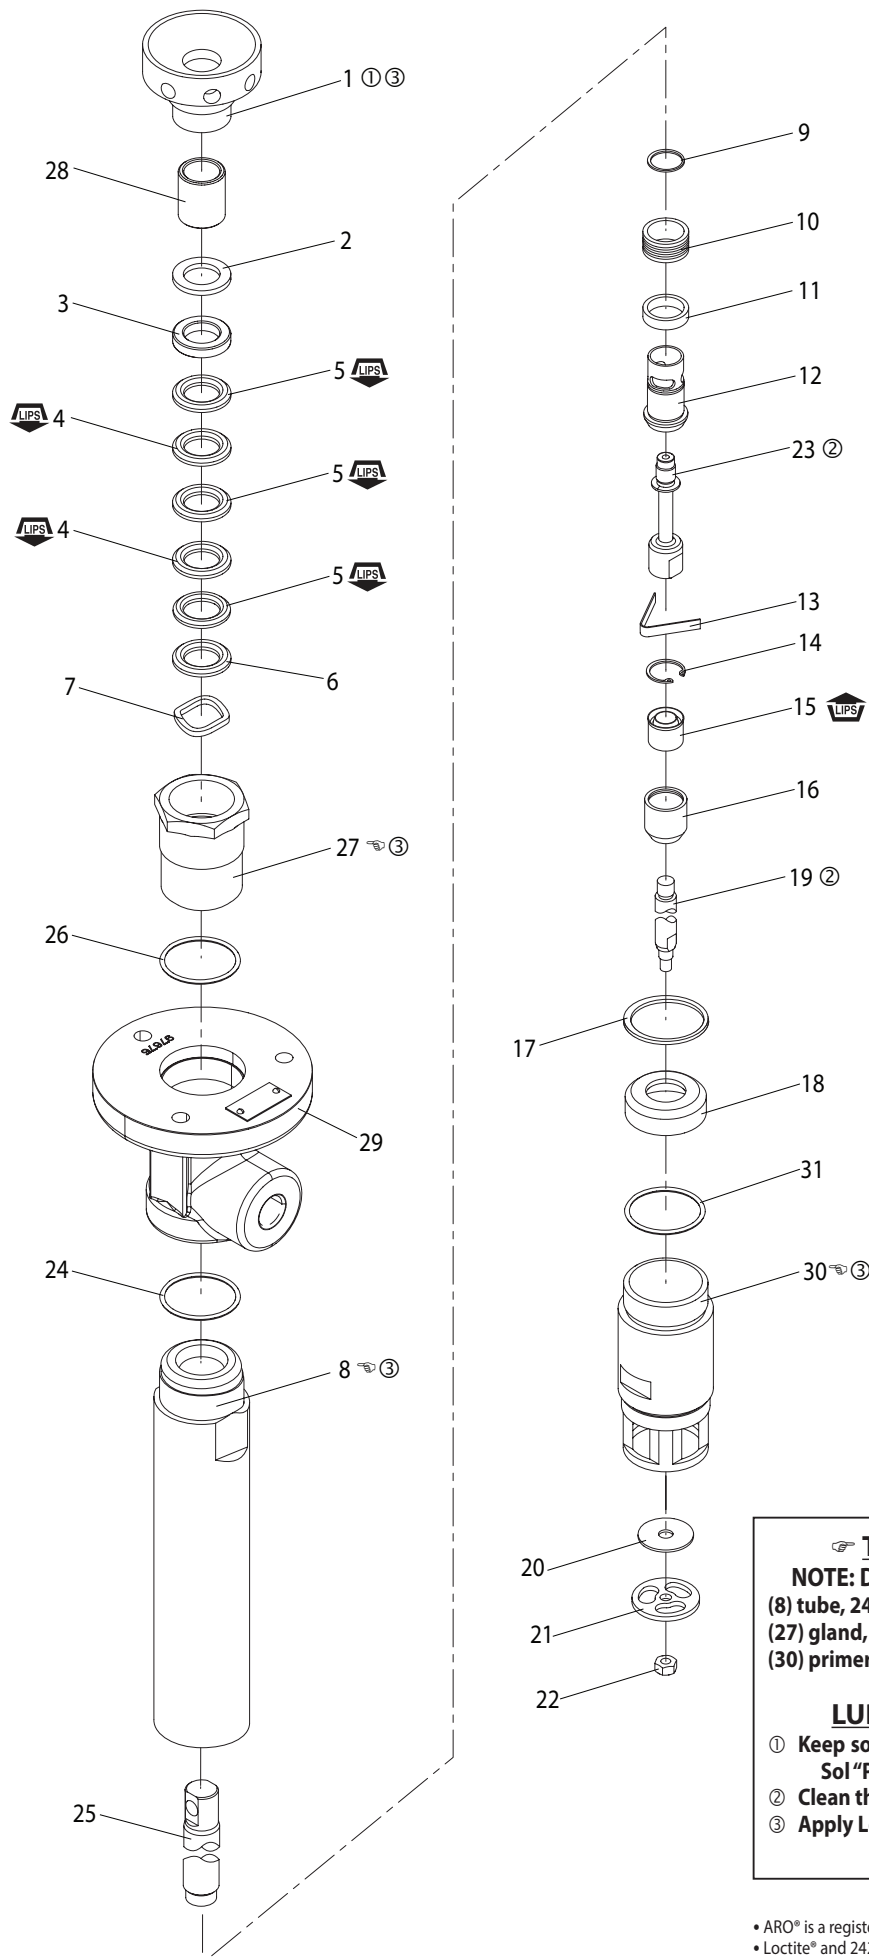

Figure 2
1. Assemble (11) seal and (10) seal to (12) piston, securing with (9) ring. **NOTE:** Refer to figure 2 for direction of lips on (10) seal. Apply Loctite® 242® to threads of (23) valve rod and assemble (12) piston and (23) valve rod to (25) plunger.
2. Apply Loctite 242 to threads of (19) primer rod and assemble to (23) valve rod.
3. Apply Loctite nickel anti-seize to threads of (1) nut and assemble (7) wave spring, (6) male washer, (5 and 4) "V" packings, (3) female washer, (2) washer, (28) bushing and (1) nut to (27) gland. **NOTE:** Do not tighten.
4. Place plunger assembly (see step 1) thru top end of (29) body.